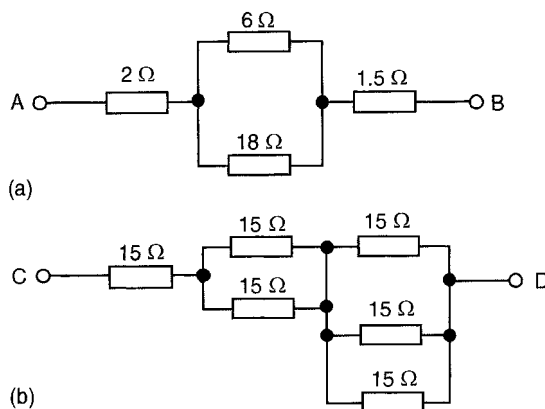

Figure 5.30
- Find the total resistance between terminals A and B of the circuit shown in Fig. 5.30(a)
- Find the equivalent resistance between terminals C and D of the circuit shown in Fig. 5.30(b)